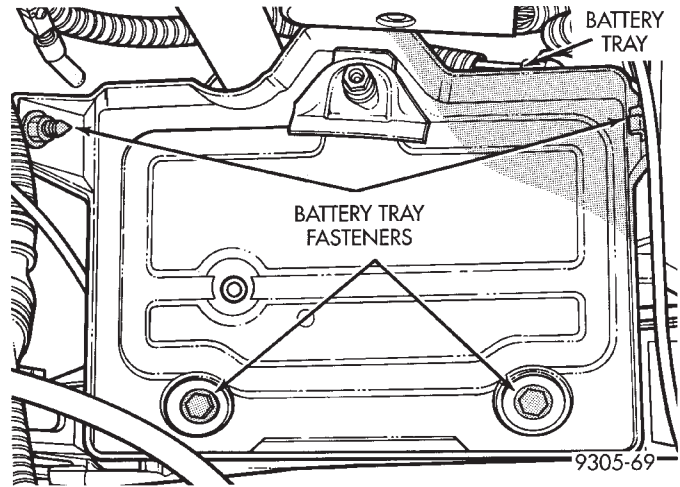

Fig. 8 Battery Tray Mounting
(3) Lower vehicle.
(4) Remove battery.
(5) Remove the 4 fasteners (Fig. 8) attaching the battery tray to the body and frame of the vehicle. Then remove battery tray from vehicle.